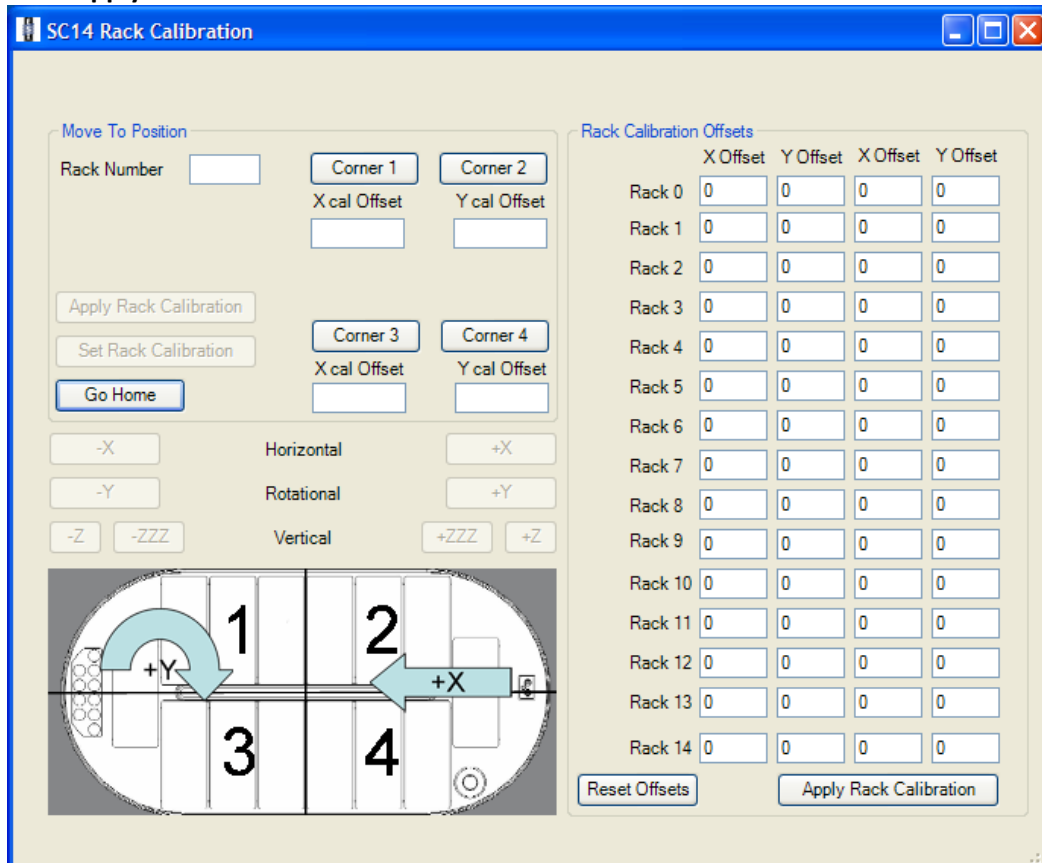

Figure 59: Calibrate rack window for SC-14.
- 2) Enter factory offsets given for each autosampler rack (Offsets are provided with the installation documentation.) See Figure 59.